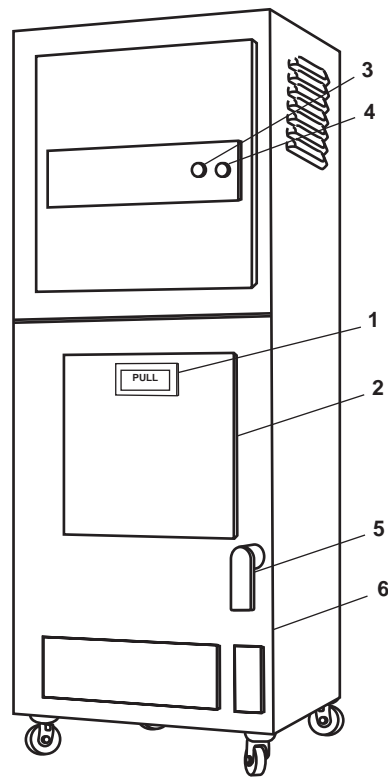

Figure 19. Trash Compactor
- a. Load the compactor. Pull the PULL handle (figure 19, item 1) and open the load door (figure 19, item 2). Load the compactor with trash.
- b. Insert the key and turn the key switch (figure 19, item 3) to the ON position.
- c. Start the compactor. Press the START pushbutton (figure 19, item 4) and then release.
- d. Empty the trash compactor. Pull up and turn the handle (figure 19, item 5). Open the door (figure 19, item 6) and empty the compactor.
- a. Turn the key switch (figure 19, item 3) to the OFF position. Remove the key.